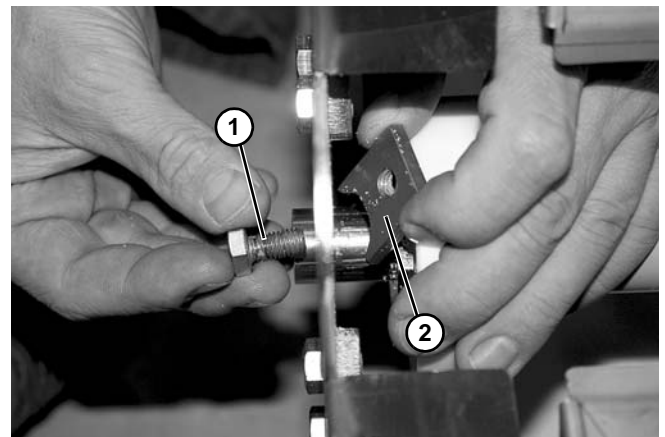

Figure 120
3. Remove screw (Figure 120, item 1) and shaft retainer (Figure 120, item 2) for lower shaft assembly. Repeat for the other side.